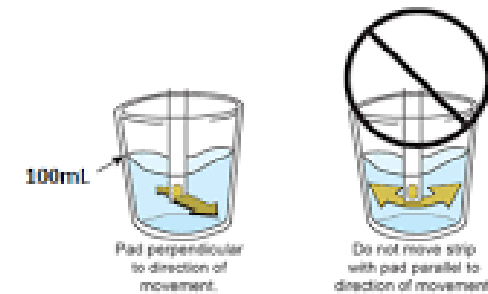

Figure 1
- Sample should be taken from the correct sample port and in a standard sample cup (as shown in Figure 1), rinse designated sample cup three times then fill sample cup with 100 ml of RO water for testing.
- Immerse test pad into sample and move in a vigorous back/forth motion for 60 seconds (Figure 1)